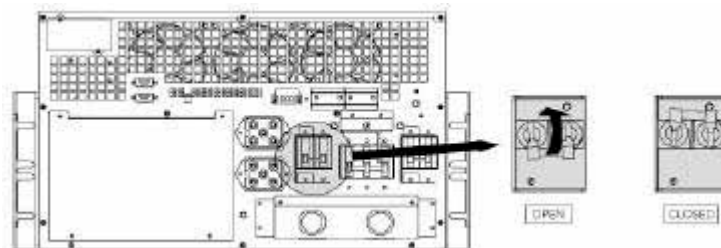

FIG 49 – 10KVA OUTPUT CIRCUIT BREAKER
8. Close the OUTPUT CIRCUIT BREAKER on the rear side of the UPS (FIG 49).